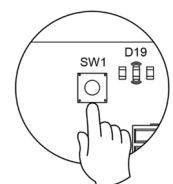

Fig. 5
The main control board can also connect to Airzone wireless elements. These elements are associated by opening the wireless association module of the Main Control Board. Press on SW1 and wait for the LED 19 to remain red (Fig. 5). The wireless association module will be open during 15 minutes.
**System reset:** If you want to return to factory values, press and hold on SW1 (Fig. 5) until LED D19 stops blinking.